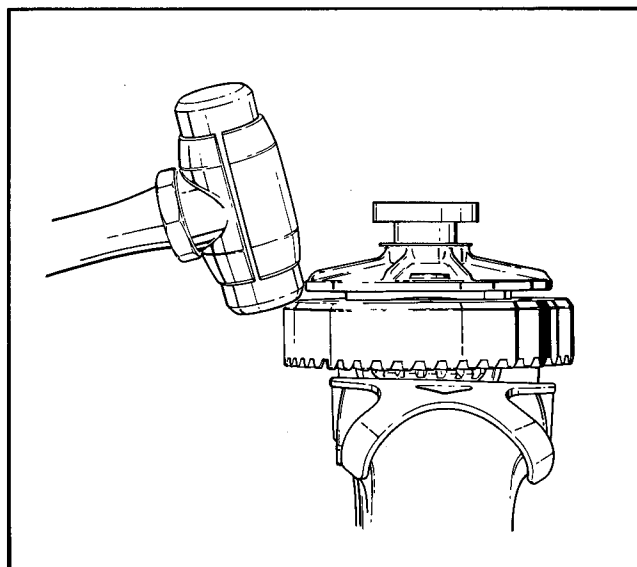

Figure 4-10 – Removing Ring Gear
- k. Remove bolts (12) from ring gear (13).
- i. Use a soft hammer to tap ring gear from ring gear carrier, Figure 4-10. Be careful not to damage ring gear teeth.